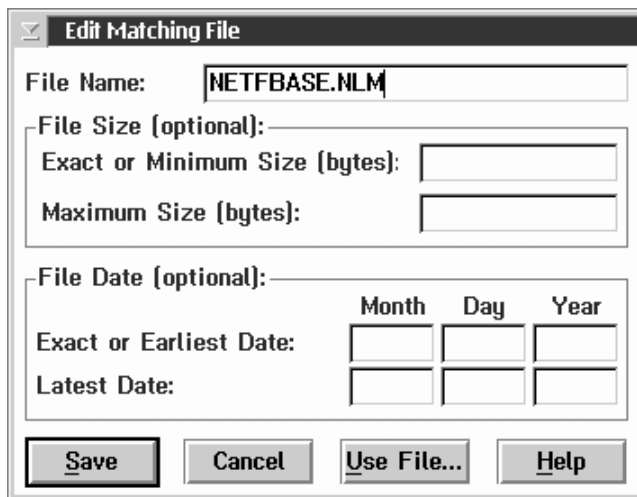

Figure 101. The Edit Matching File window
- c. **Optional:** In order to differentiate between different releases or versions of an individual product, you might need to specify that particular files were created on or after a specific date, or that the file is a certain size or within a range of sizes. If you want Software Inventory to look for files that are a specified size or within a range of sizes, or that were created on a specific day or during a specific date range, select the file from the **Matching Attributes** field and then select **Edit** to open the Edit Matching File window (see Figure 101 on page 326). Specify the **File Size** and **File Date** information, and then select **Save** to continue.